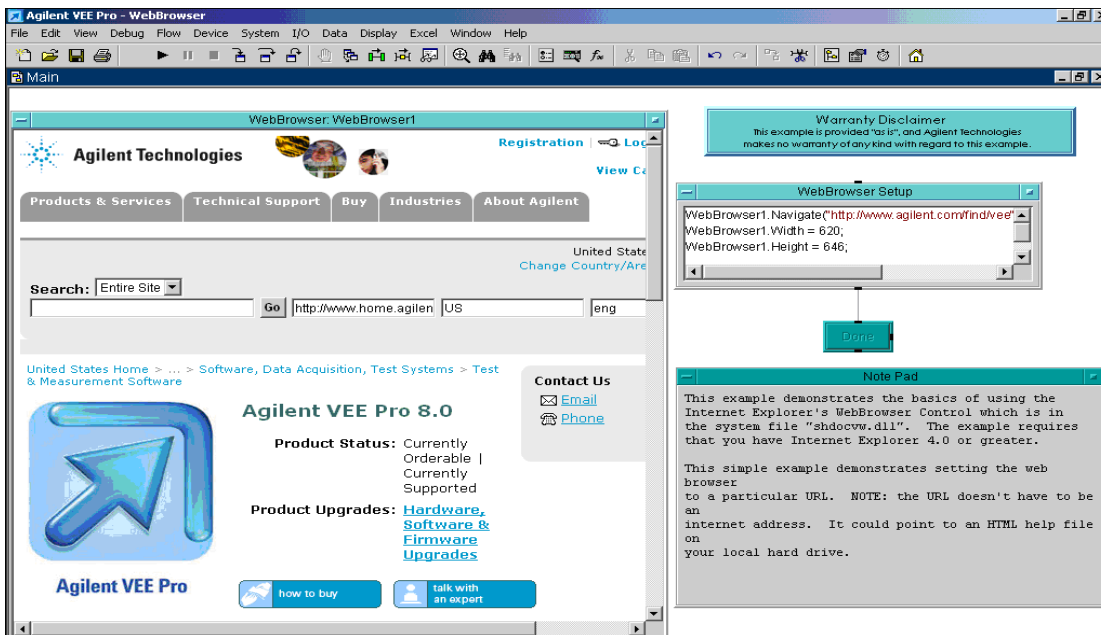

Figure 2-8 WebBrowser Example
- 2 Open the WebBrowser icon. See Figure 2-8.
- 4 Click Done; you will return to Figure 2-8.
- 5 Go to the icon object "WebBrowser Setup. You can change the address (that is in Red) where it says "WebBrowser1.Navigate". You may insert any desired web site address and reach that web site. As noted in Figure 2-8 on the Note Pad, you may also reach an HTML help file on your local hard drive.